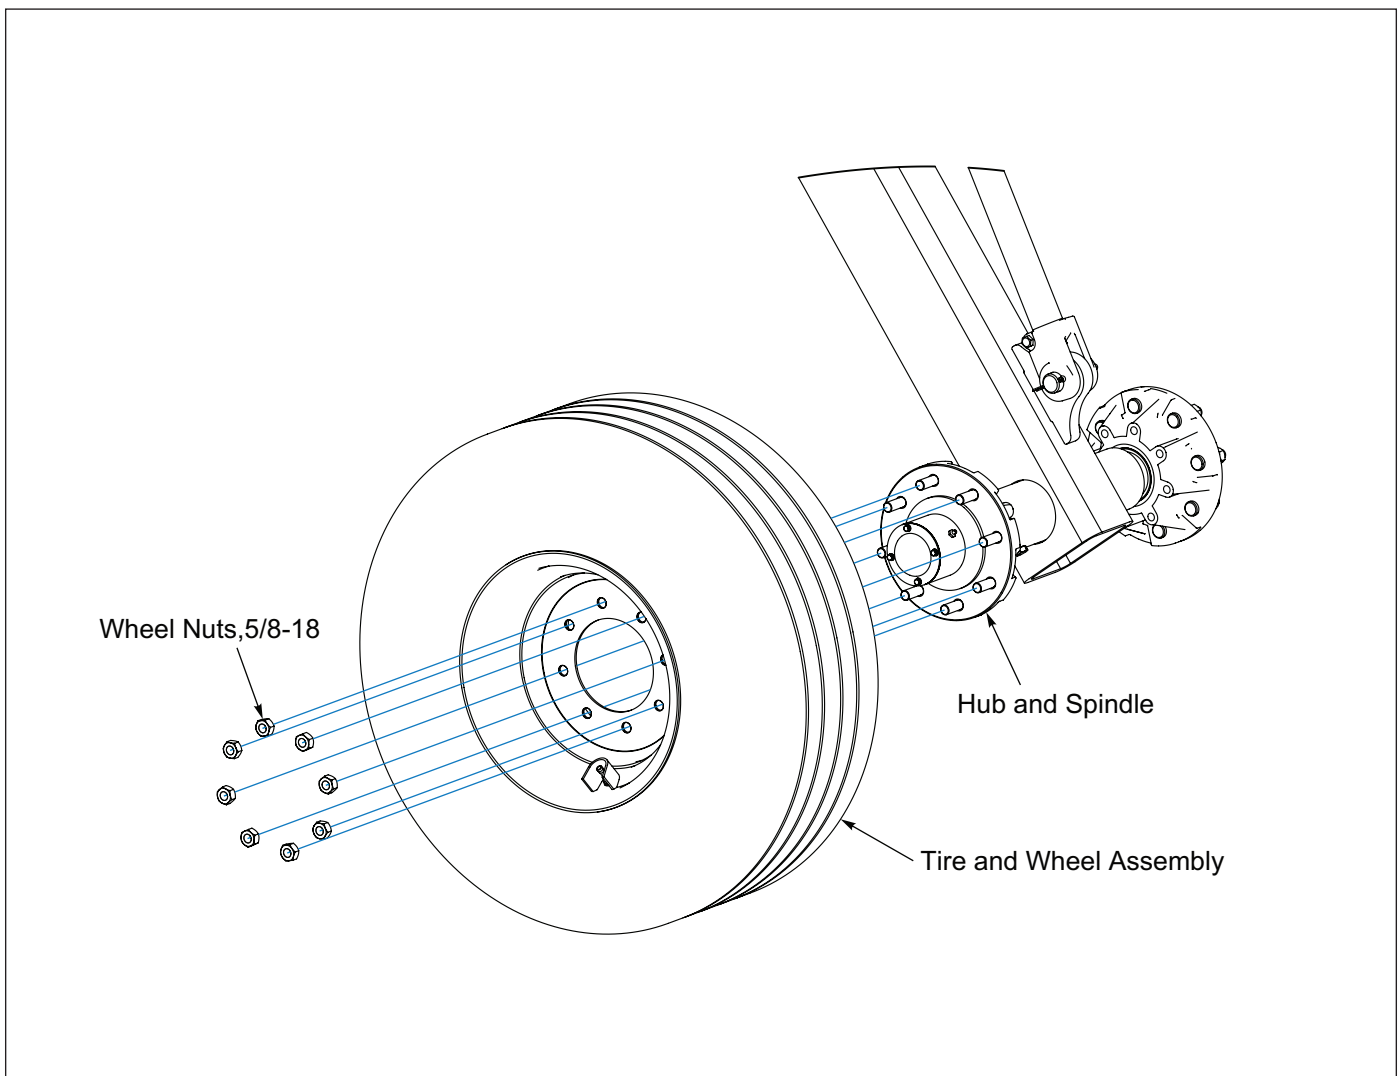

Figure 2-7: Tire Installation
1. Remove the eight 5/8-18 Wheel Nuts from the Hub. Install the Tire and Wheel Assembly onto the hub. The Pulvi-Mulcher uses 380/55R x 16.5 tires and should be inflated to 70 PSI. See Figure 2-7.